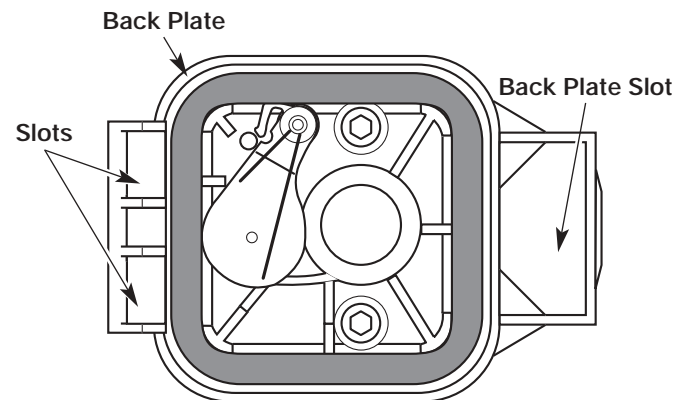

Figure 48
6. Replace the filter. See Figure 48.
7. Reinstall the air filter cover. Position the hooks on the left side of the air filter cover into the slots at the left side of the back plate. See Figure 48.